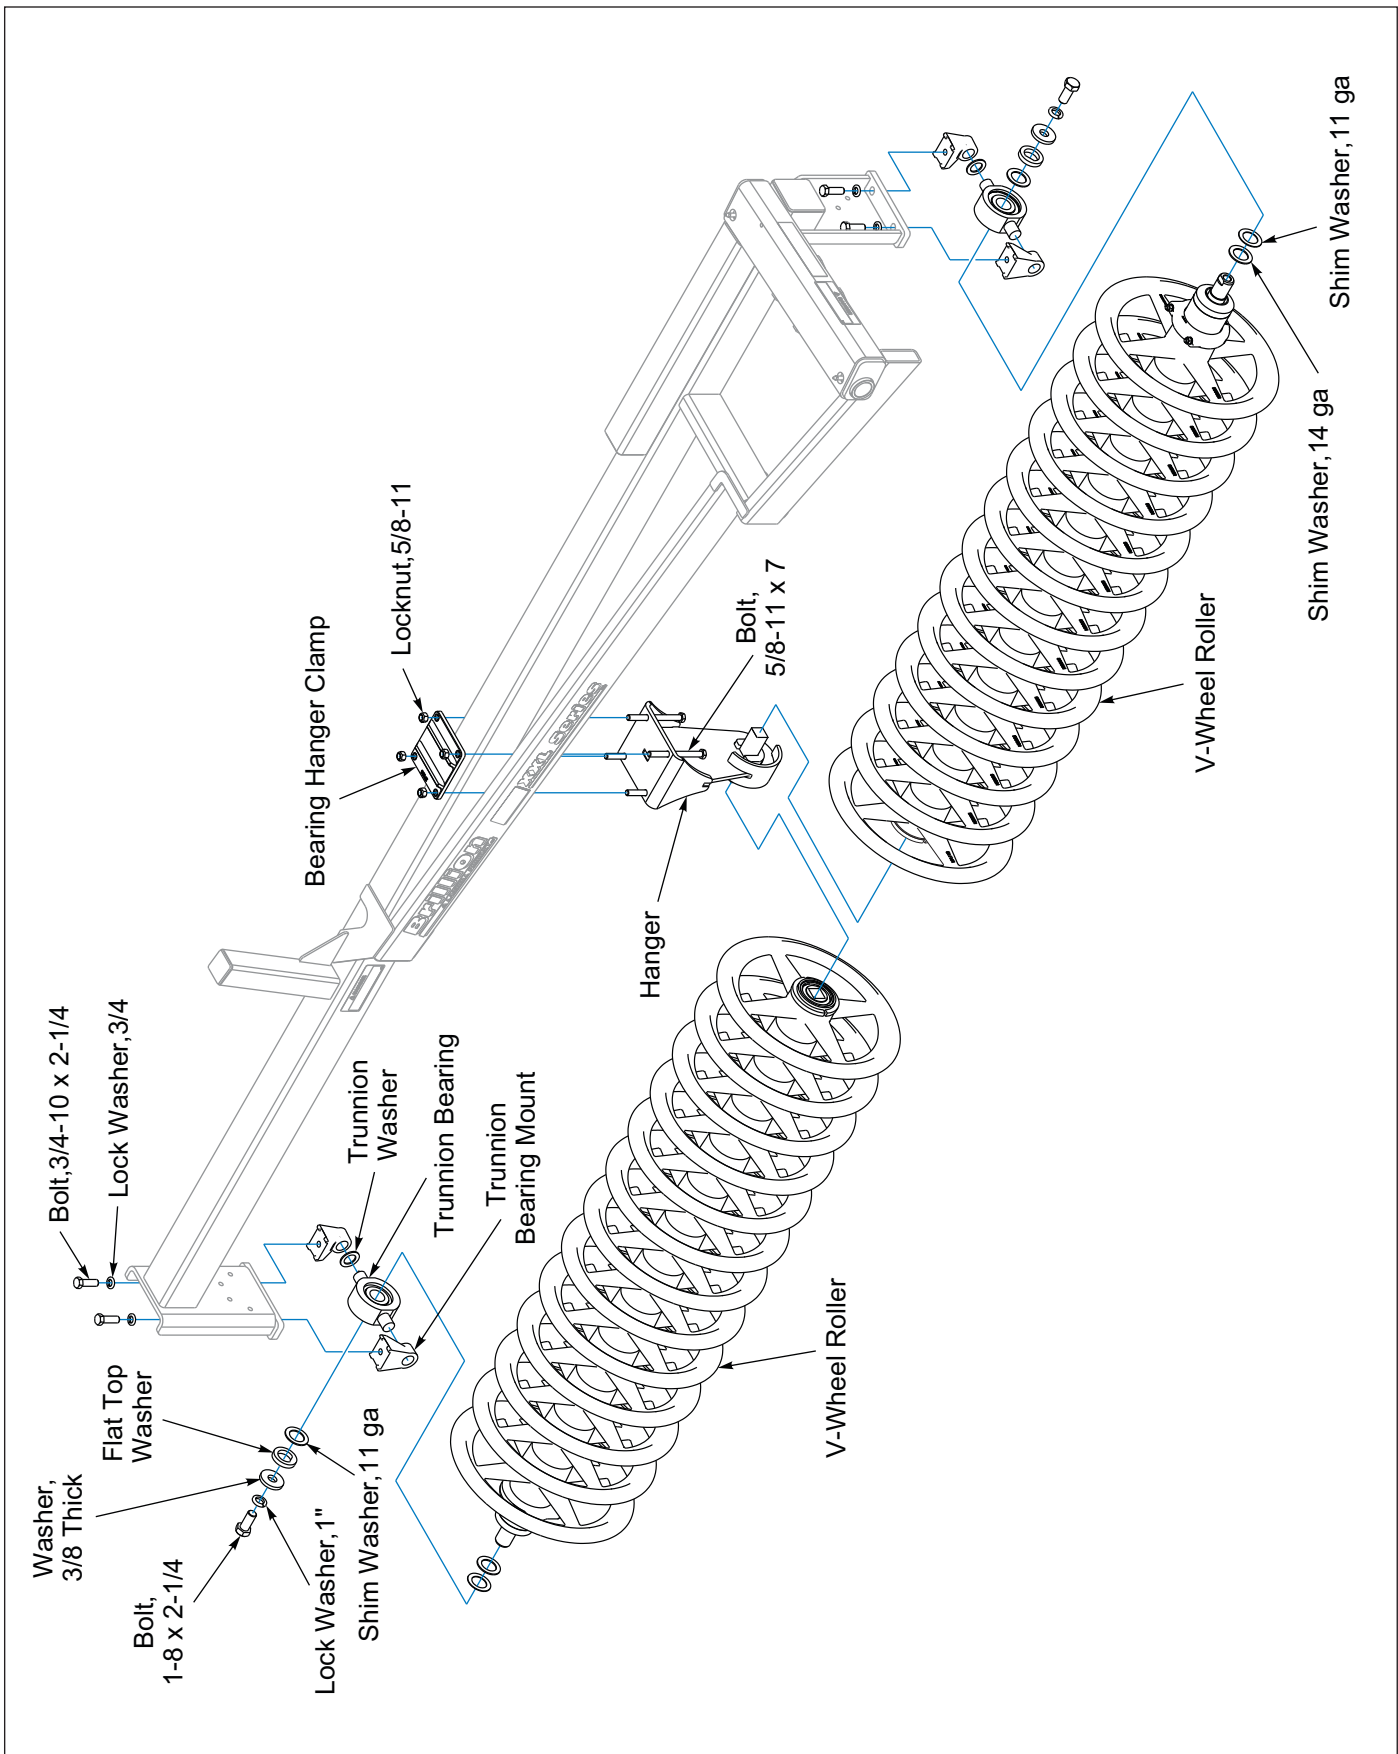

Figure 2-19: V-Wheel Wing Roller Assembly Installation (XXL42, XXL44, XXL46 Models)
1. Position the Roller Center Hanger approximately halfway between the Wing Frame Bearing Hangers. Insert four 5/8-11 x 7 bolts up through the hanger and into the bearing hanger clamp located on top of the frame tube, secure with 5/8-11 Locknuts. **See Figure 2-19.**